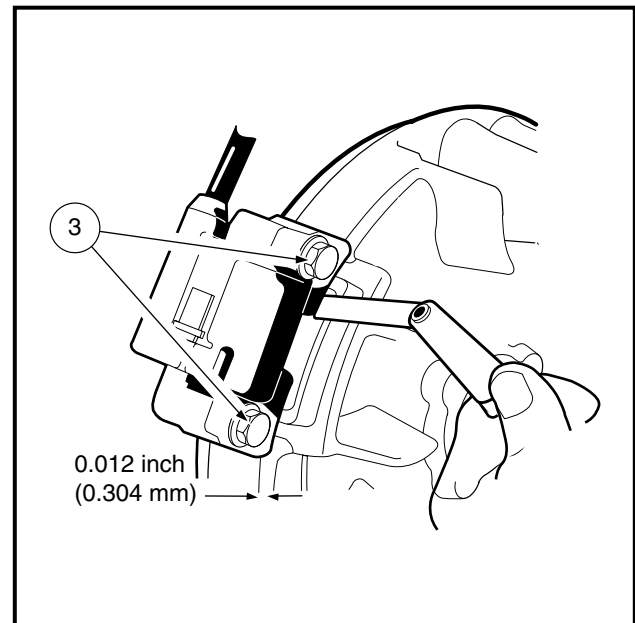

Figure 13-63 Adjust Ignition Coil Air Gap
2. While tightening the two bolts (3), use a bronze feeler gauge to adjust the ignition coil air gap to 0.012 inch (0.304 mm) (**Figure 13-63, Page 13-32**).